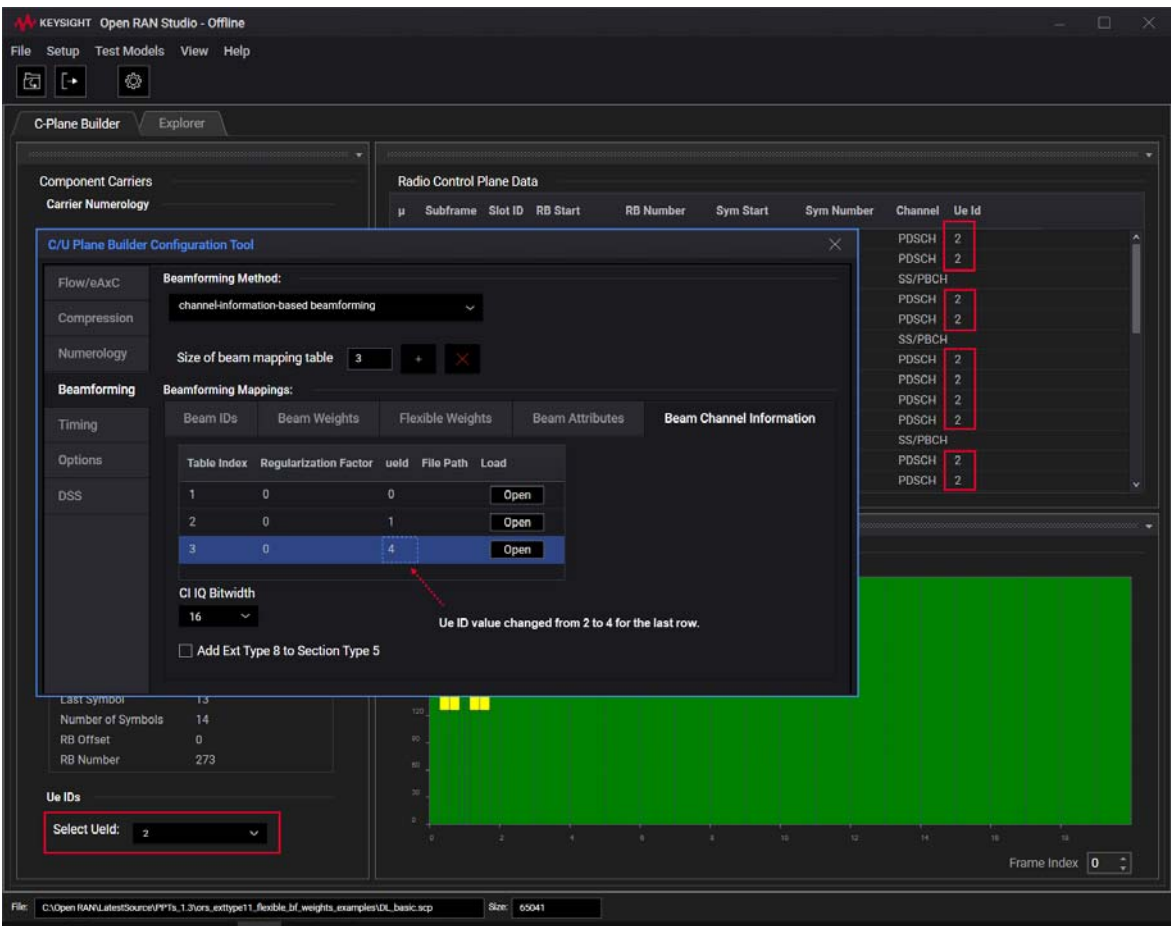
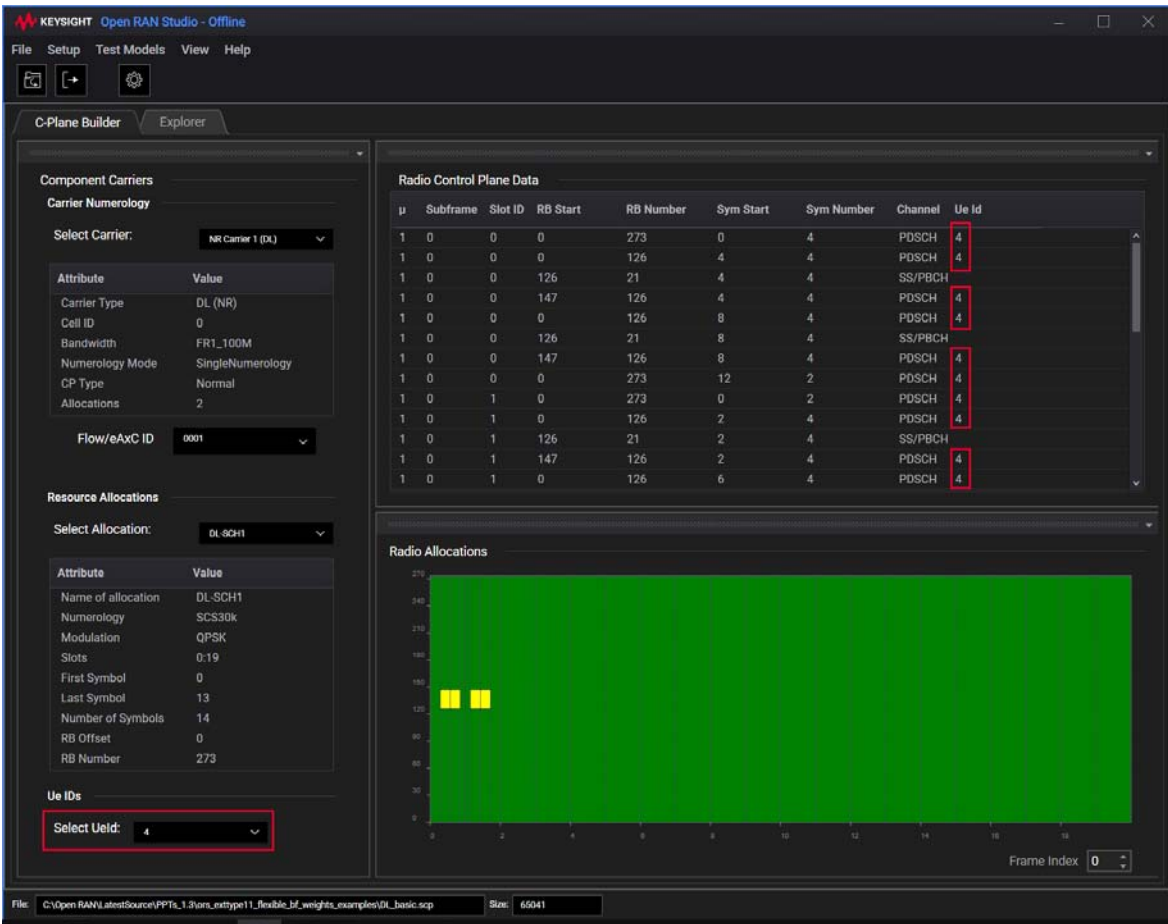

Figure 295 Changing Ue ID value already assigned to an allocation
Figure 296 Updated Ue ID values displayed in the Radio Control Plane Data
- e Similar to Beam IDs, the Ue ID values undergo the same kind of update for the allocations, as shown in Figure 295 and Figure 296.